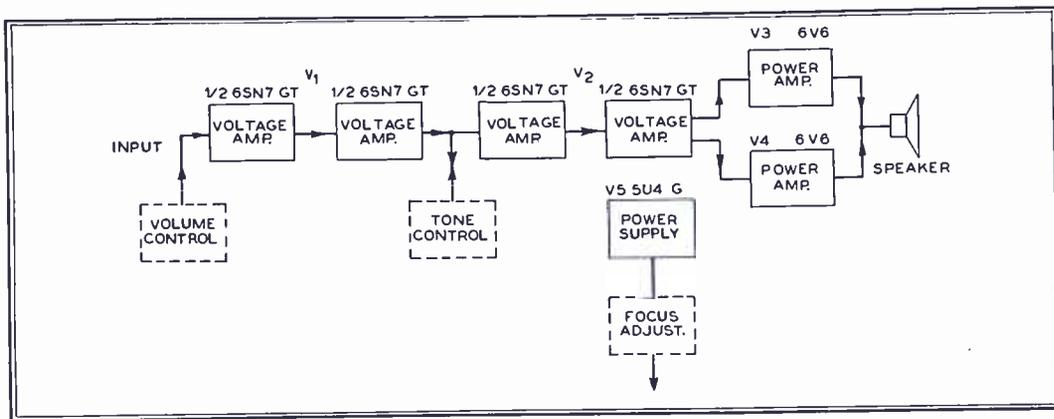

FIG. 5. THIS AMPLIFIER IS USED FOR THE FM TELEVISION SOUND CHANNEL, AND FOR FM AND AM BROADCAST RECEPTION. POWER SUPPLY ALSO FURNISHES FOCUSING CURRENT
**AF Amplifier** ★ The audio amplifier assembly contains the power supply for the audio amplifier and B+ to the AM Tuner, the RF and sound IF sections of the RF-IF chassis, and focusing current to the focusing coil of the cathode-ray tube. This is shown in Fig. 5.